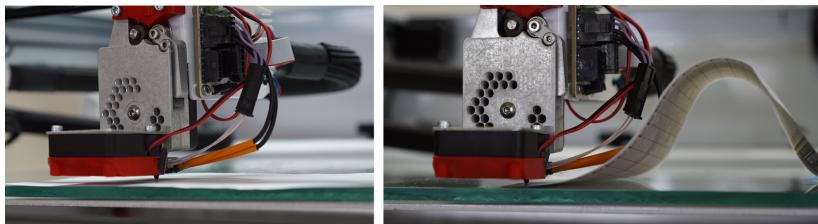

Figure 4-29. Images showing a piece of paper being slid between the nozzle and build plate with the nozzle being too far away (left) and too close (right)
make adjustments. See Figure 4-29 for a good “distance” to home your up-down (Z) axis to.